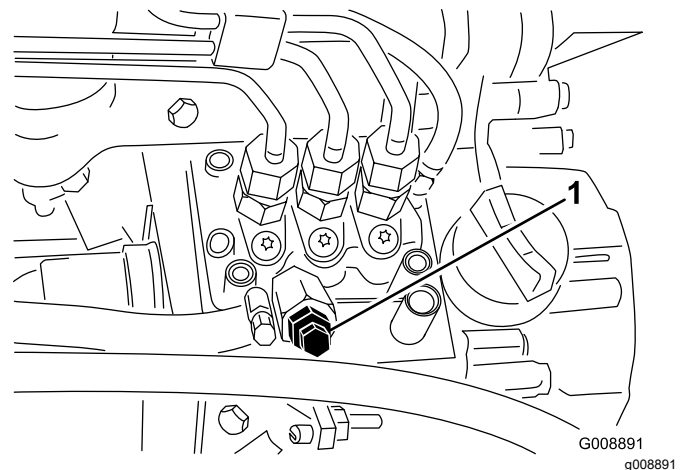

**Figure 34**
2. Insert a tube or similar object onto the long spring end to relieve the spring tension during the adjustment (Figure 34).
3. While relieving the spring tension, remove the bolt and locknut securing the spring actuator to the bracket (Figure 34).